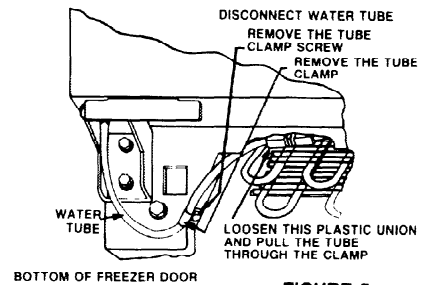

FIGURE 5
7. Disconnect freezer door bottom hinge water line by loosening the 1/4" O.D. plastic tube union nut (see Figure 5).